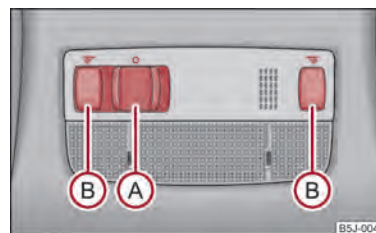

Fig. 26 Interior lighting - version 1 ▶
- Press the switch (A) in the direction of the centre of the light, the symbol ☞ ⇒ fig. 26 appears.
- Press the switch (A) in the direction of the edge of the light, the symbol ☞ appears.
- Press the switch (A) into the middle position O.
- On the version without reading lights press the switch (A) to the right, the symbol O appears.
- Press on one of the switches (B) ⇒ fig. 26 in order to switch the right or left reading light on or off.